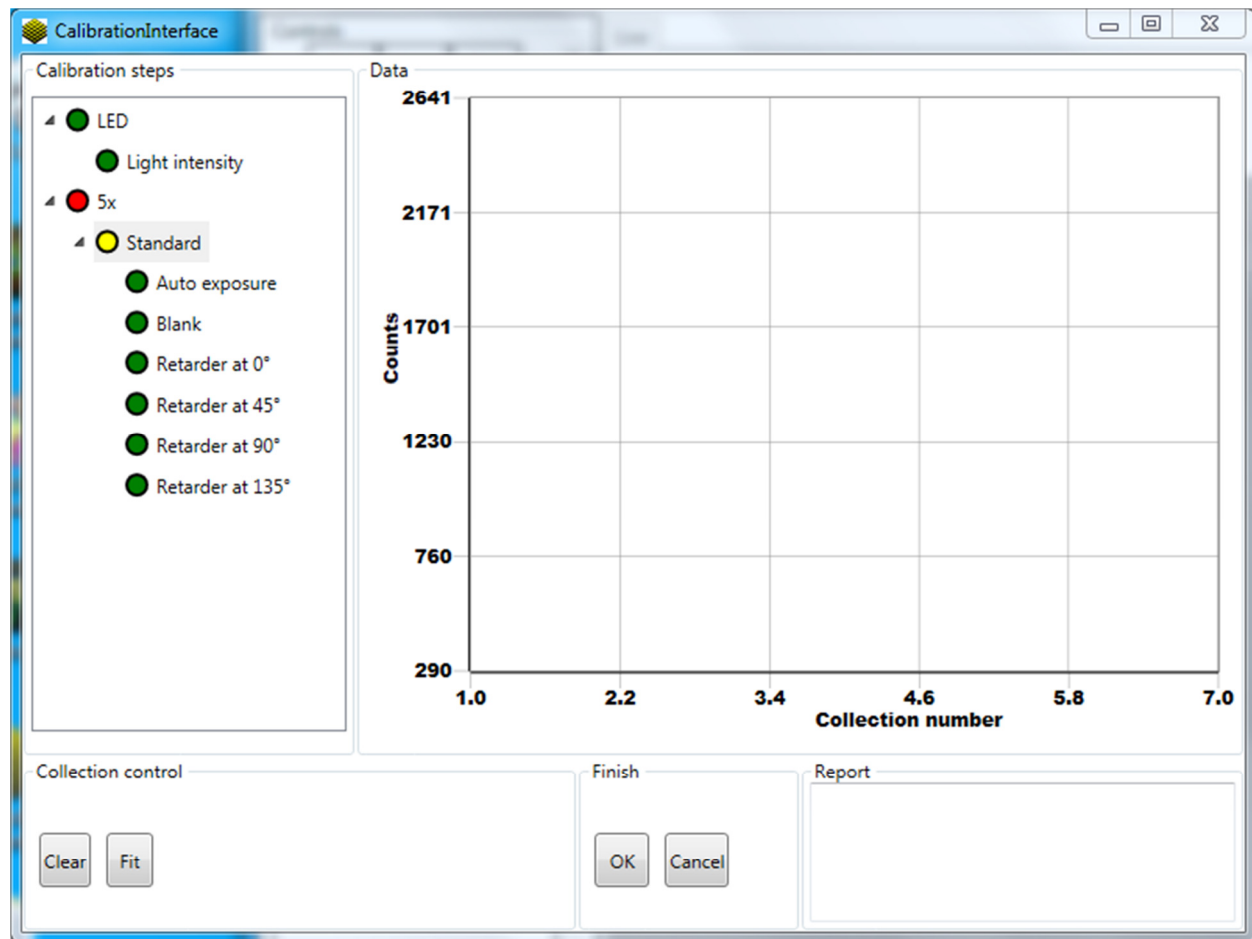

Figure 29.
14. Measure the sample at each of the eight configurations. At the end, all the circles should be green as shown in Figure 29.